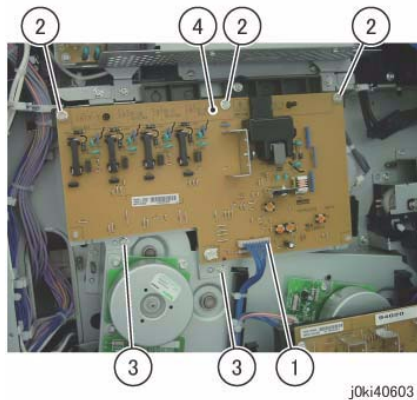

Figure 1 Remove the HVPS
4. Remove the HVPS (1st/2nd/DTC). (Figure 1)